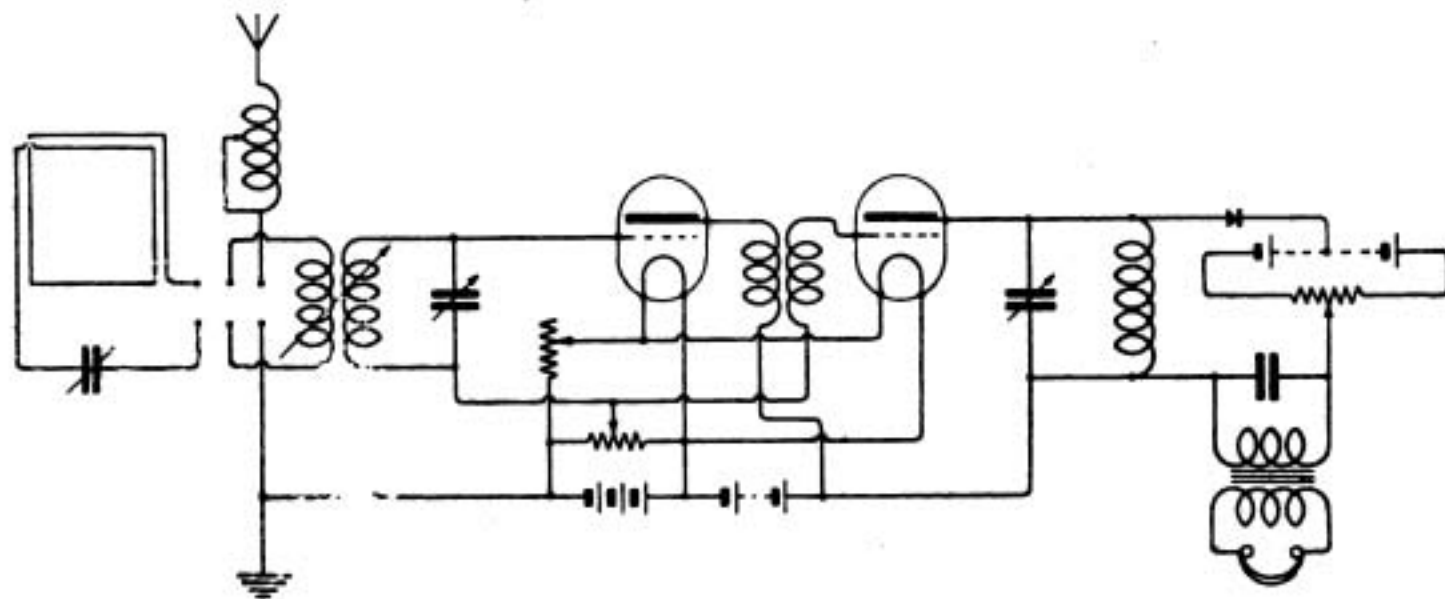

Fig. 1.
A.A. (Chelsea) asks (1) For a diagram for a two-valve amplifier with crystal detector, inter-valve transformer, grid leak, loose coupler, two variable condensers, using one filament battery and H.T. battery: also a change-over switch to earth the outdoor aerial and bring in a frame aerial (2) With a pancake tuner with three coils is it possible to have a switch to cut out the loose coupler and put in the pancake coils. (3) Would he gain anything by using a double slide tuning coil as A.T.I.
(1) Diagram as in Fig. 1.
(2) It is doubtless possible, but you give no particulars of your pancake tuner, so we cannot give a diagram. Your coils can be used to load either aerial or frame circuits.
(3) No special advantages in the two slide arrangement. It can be used as A.T.I. in accordance with the diagram in question (1).
A.H.L. (Manchester) asks (1) For a good circuit for spark and C.W. using two valves R type. (2) If an enclosed diagram gives the best circuit with one valve and loose coupler for spark and C.W.